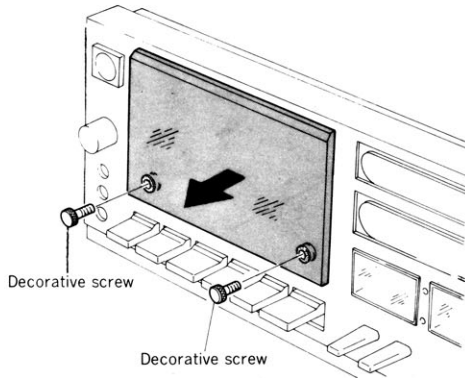

Fig. 10
- 1) Remove 2 decorative screws and remove cassette lid cover. (Refer to Fig. 10)